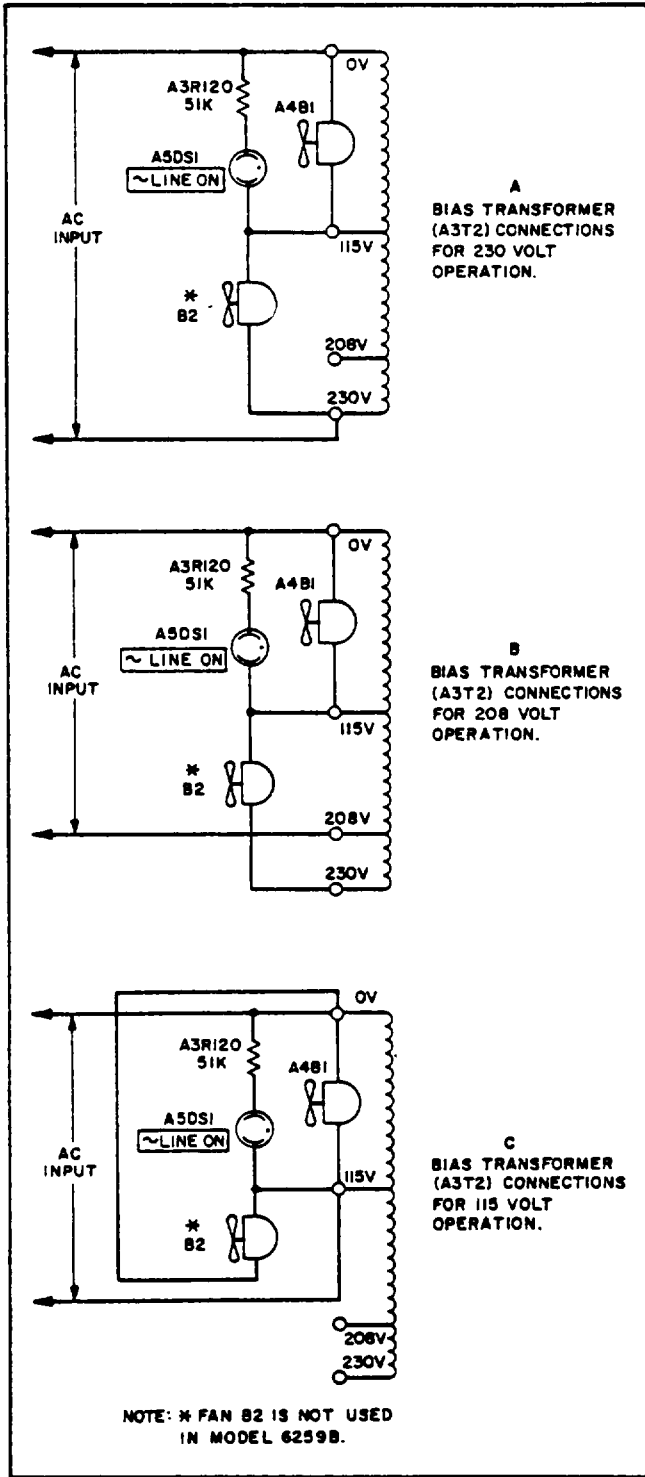

Figure 2-2. Bias Transformer Primary Connections for 208Vac Operation (Model 6259B, 6260B, 6261B, 6268B, and 6269B) and 115Vac Operation (Except Model 6269B)
transformer (see Figure 2-2 B). Leave wire from fan B2 (not used in 62599) soldered to "230V" terminal.
- d. Unsolder wires from circuit breaker A5CB1 and fan B2 connected to "230V" terminal of bias transformer A3T2 (see Figure 7-2). Solder wire from circuit breaker to "115V" terminal of transformer, and solder wire from fan to "0V" terminal of transformer (see Figure 2-2 C). Note that